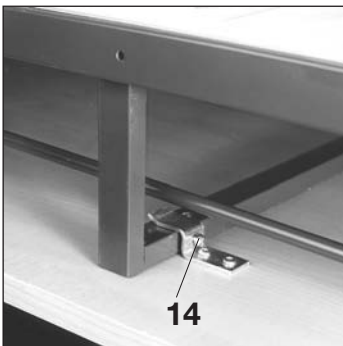

Fig. 8
• Screw the raised-head screws M4 x 12 mm **14** into the two upper front-panel brackets **Fig. 8**.